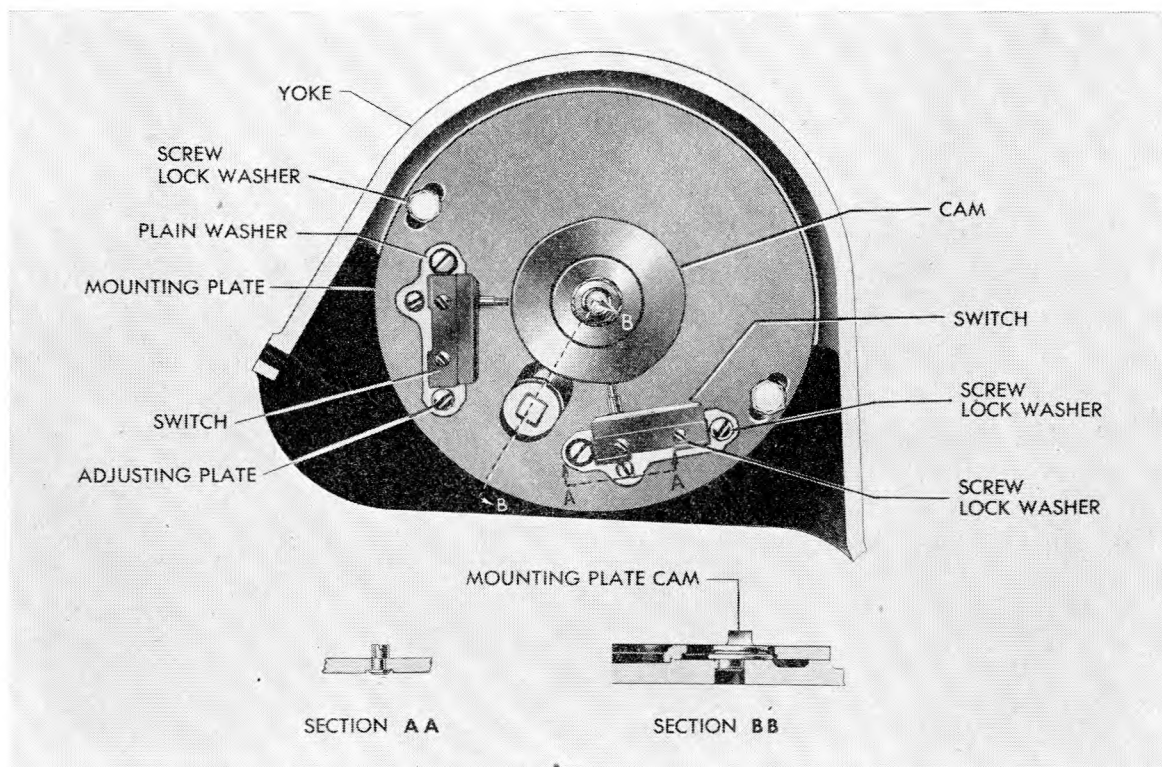

Fig. 26—Adjustment of elevation limit switches
- 110. (a) Remove the cover over the elevation compartment of the upper pedestal. Refer to Fig. 26.